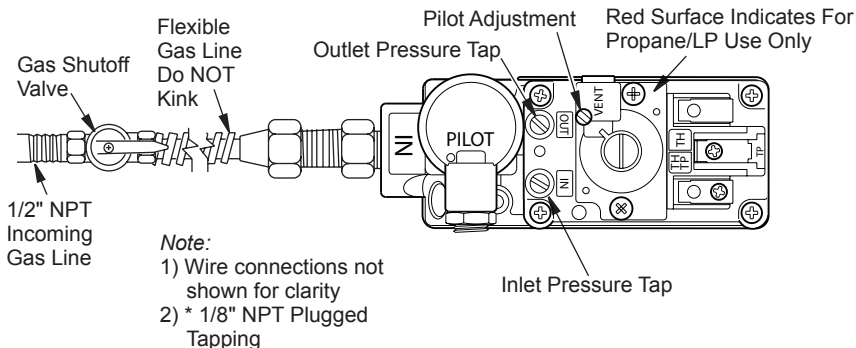

Figure 23 - Connecting Incoming Gas Line to Flex Gas Line
2. Attach flexible gas line from gas supply to control valve (see Figure 23).